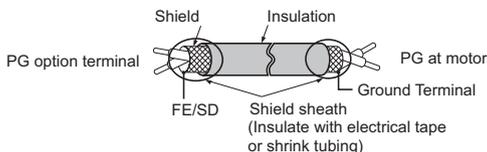
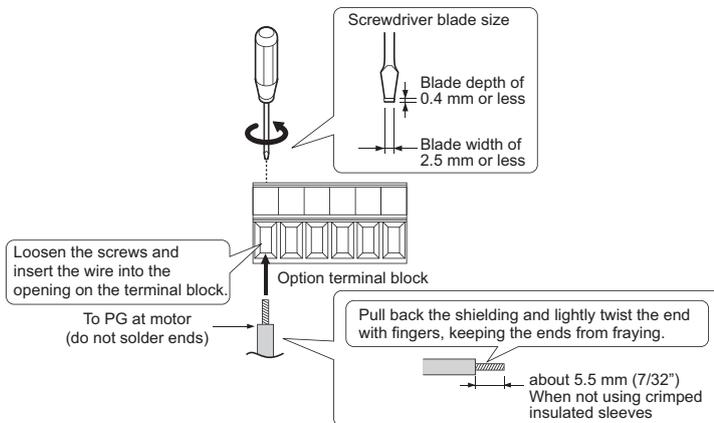

Figure 6 Preparing Ends of Shielded Cable
Figure 7 Preparing and Connecting Cable Wiring
4. Prepare and connect the wire ends as shown in Figure 6 and Figure 7. Refer to Wire Gauges and Tightening Torques on page 25 to confirm that the proper tightening torque is applied to each terminal. Take particular precaution to ensure that each wire is properly connected and wire insulation is not accidentally pinched into electrical terminals.
5. Wire the motor PG encoder to the terminal block on the option. Refer to Figure 6 and Figure 7 for wiring instructions. Refer to Figure 8 for the connection diagram. Refer to Table 5 for a detailed description of the option terminal functions.